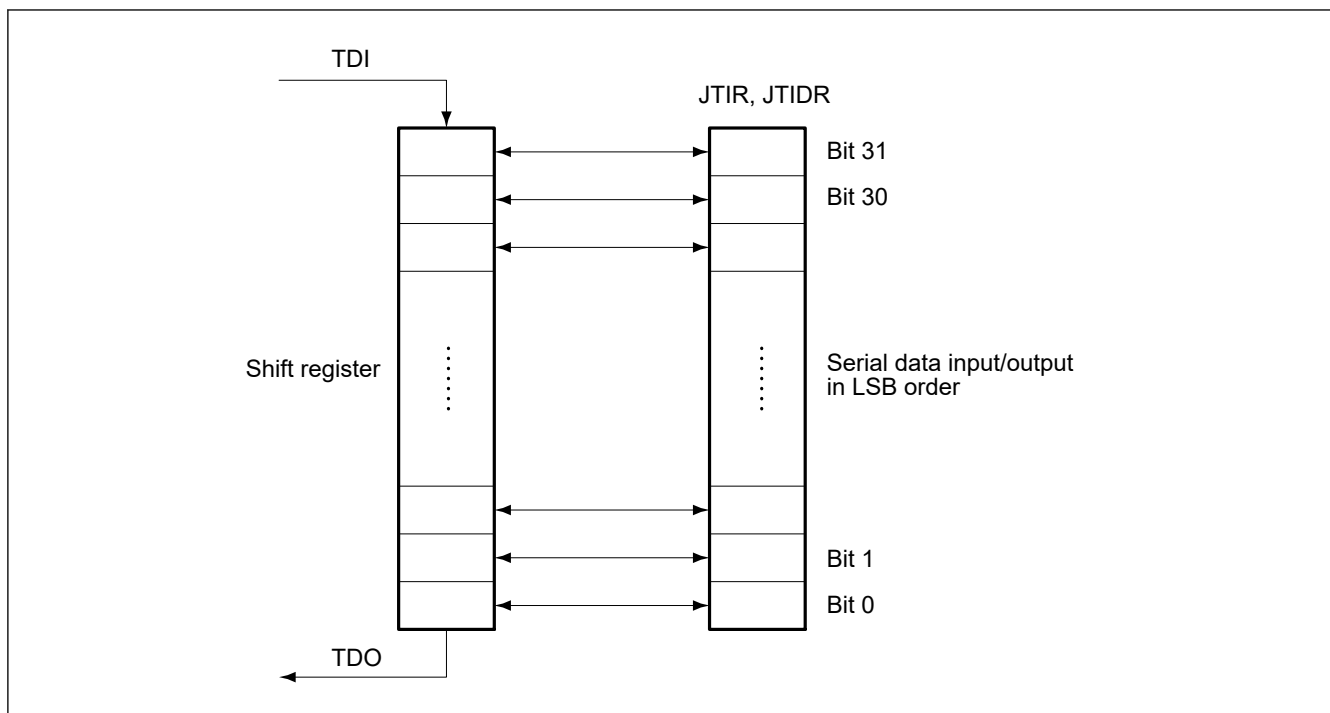

Figure 49.3 Serial data input/output
- Serial data input/output is in LSB order, as shown in Figure 49.3